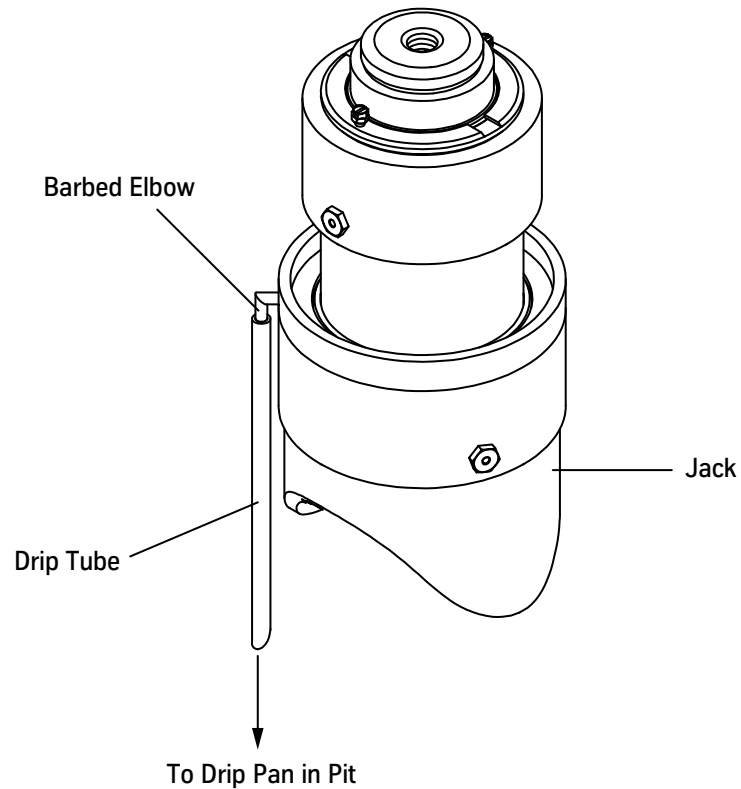

Figure 14 - Drip Tube Installation (Two-Stage Shown)
1. Install the drip tube on the barbed elbow (located on the packing head), and run the tube to a drip pan in the pit. See Figure 14.